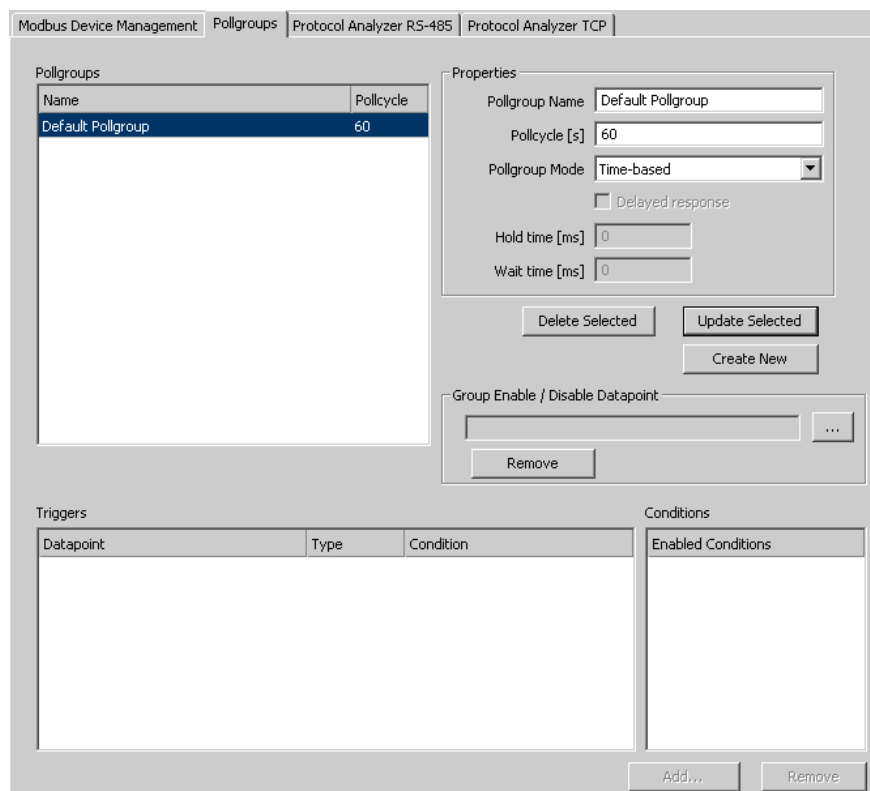

Figure 157: Pollgroup Management dialog.
2. Open the **Pollgroups** tab. This shows the dialog displayed in Figure 157.
2. In the **Modbus Management** dialog, open the **Pollgroups** tab. This displays the poll groups management tab displayed in Figure 157.